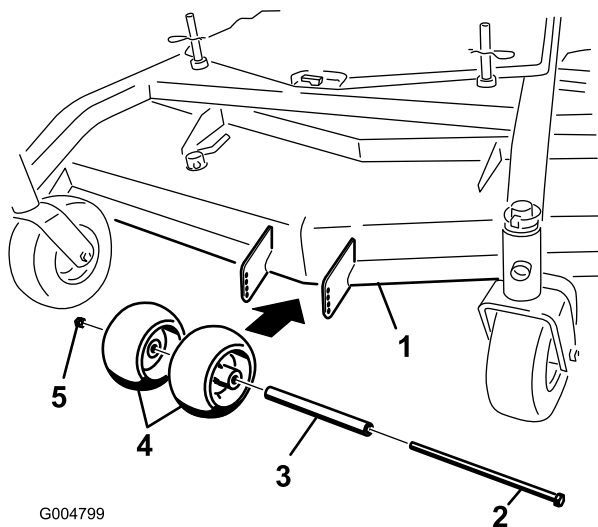
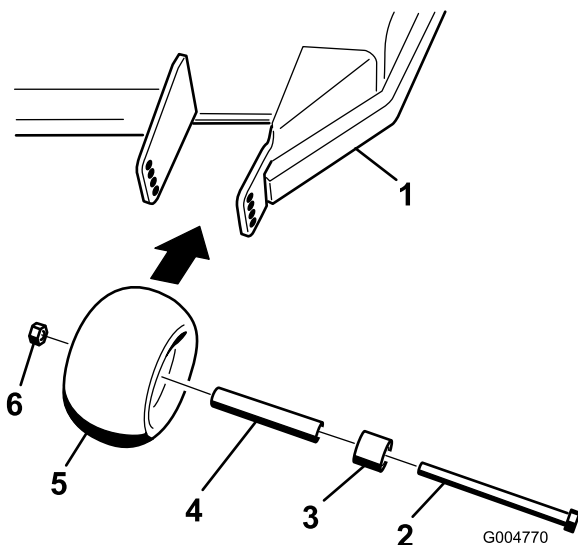
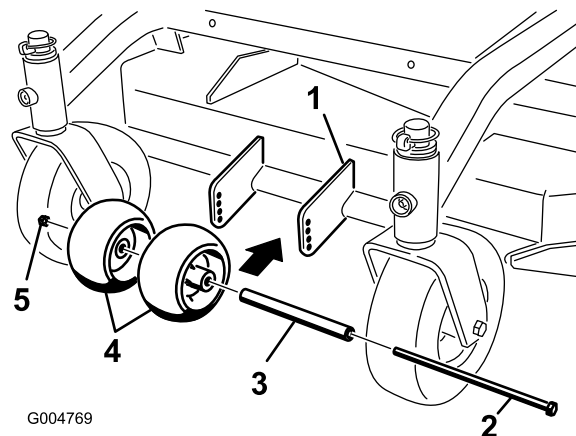

Figure 14
Figure 15
Figure 16
3/8 inch (10 mm) clearance above the ground (Figure 14, Figure 15, Figure 16).
2. If adjustment is needed, remove the bolt, washers and nut (Figure 14, Figure 15, Figure 16).
3. Select a hole position so the anti-scalp rollers are a minimum of 3/8 inch (10 mm) off the ground (Figure 14, Figure 15, Figure 16).
4. Install the bolt and nut (Figure 14, Figure 15, Figure 16).